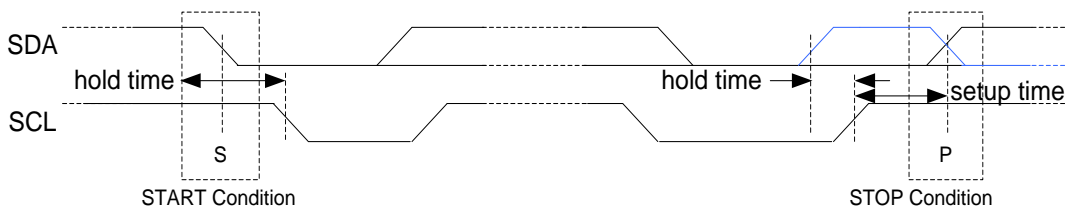

Figure 16. START and STOP (or repeated START, blue line) condition
An idle I²C bus state occurs when both SCL and SDA are not being driven by any master and are therefore in a logic HI state due to the pull up resistors. Every transaction begins with a START (S) signal and ends with a STOP (P) signal. A START condition is defined by a high to low transition on the SDA while SCL is high. A STOP condition is defined by a low to high transition on the SDA while SCL is high. START and STOP conditions are always generated by the master. This slave module also supports repeated START (Sr) condition which is same as START condition instead of STOP condition (the blue-color line shows repeated START in Figure 16).